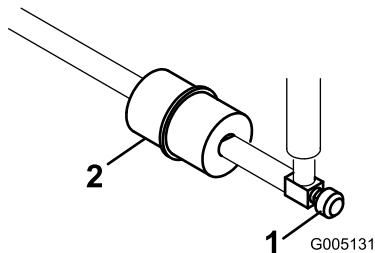

Figure 45
The in-line fuel filter is in the fuel line between the fuel tank and carburetor (Figure 45).
1. Close the fuel-shutoff valve (Figure 45).
2. Place a drain pan under the filter, loosen the hose clamp on the carburetor side of filter, and remove the fuel line from the filter (Figure 45).
3. Loosen the other hose clamp and remove the filter (Figure 45).